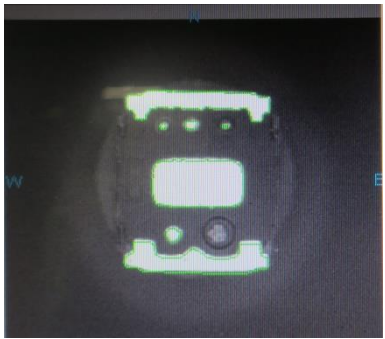

Figure 8. Recommended reference points to detect, recognize, or locate the electrodes
2. Using the recommended reflow soldering conditions (See Figure 8 to the left) as a reference, modify if necessary, the recommended reflow conditions specified by the manufacturer of the solder paste being used.